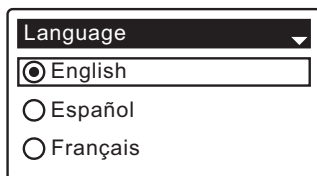

FIG. 13
- 1. LANGUAGE** If the desired language already has a black dot next to it (See Figure 13), go to Step 2. Otherwise, press the softener’s DOWN (▼) or UP (▲) buttons to scroll to the desired language, then press the SELECT (○) button to choose it.